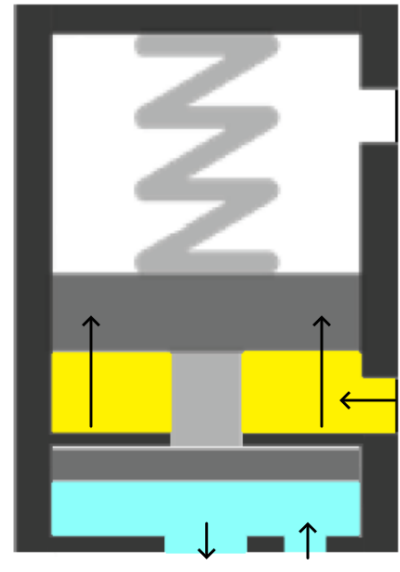

Figure 05 – Single and Double Effect Dosing Phase
In the case of a simple effect, what keeps the valve closed is the spring, so the fluidic pressure must be below the pressure generated by the spring to keep the valve closed (Figure 03). The fluid is located at the fluidic inlet, the inlet of which is blocked by the diaphragm, held in place by the needle that is pushed by the spring. When pneumatic pressure is exerted in the opening inlet, the piston rises and, consequently, also the needle and diaphragm, allowing the fluid to pass to the nozzle (Figure 05).
- The needle rises, lifting the diaphragm and allowing the fluid to exit (Figure 05);